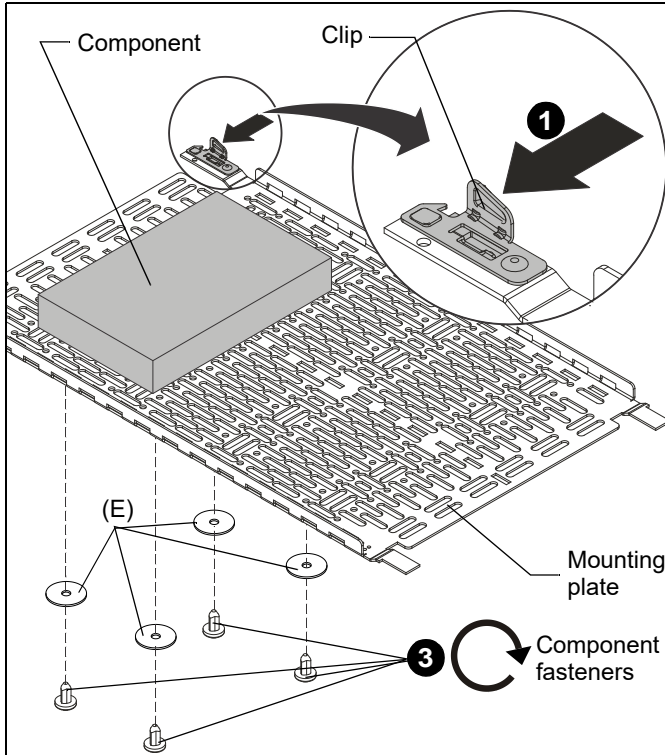

Figure 7
1. Remove mounting plate from storage panel by pressing inward on the clip located at the bottom of the storage panel. (See Figure 7)
2. Place component(s) on mounting plate and position in the desired location with the hole pattern in mounting plate best aligned to component mounting holes. (See Figure 7)
3. Using the fasteners provided with the component and the washers (E), attach the component to the mounting plate. (See Figure 7)